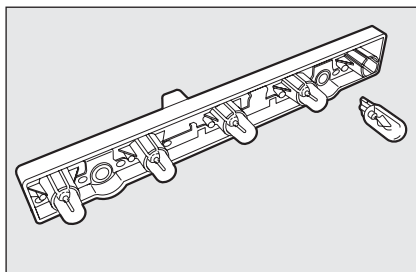

fig. 26
- remove and replace the bulbs **fig. 26**.